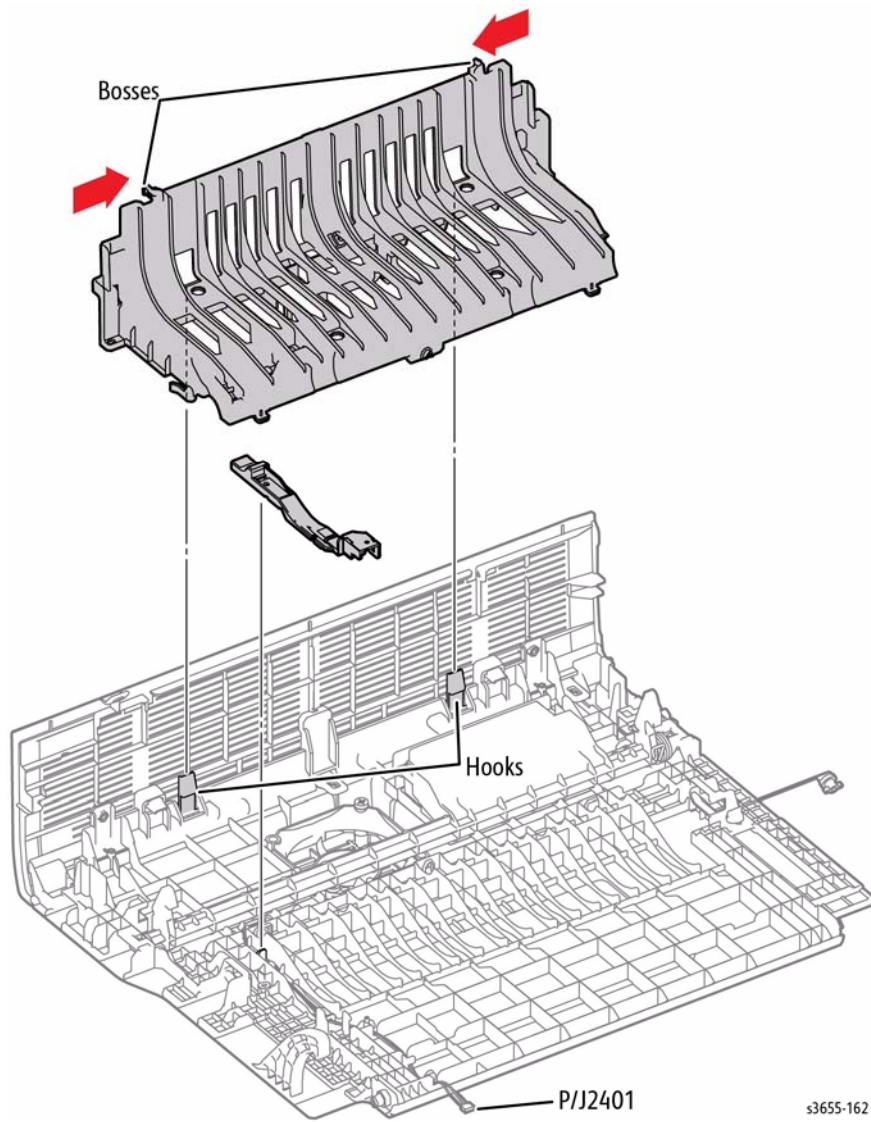

Figure 1 Remove the Duplex Output Chute
5. Refer to Figure 1 to locate and release 2 bosses at the top and 2 hooks near the center of the duplex output chute and remove the chute.